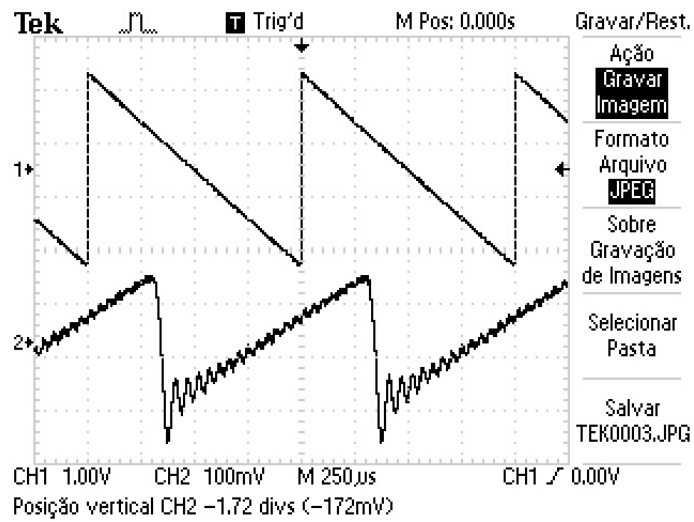

Figure 7: Oscilloscope view of the function generator sawtooth wave and analog output of the STM32F746G.
**Question 8 [ 2pt / 10 ]:** repeat again the previous experiments (questions 6 or 7) this time with a sawtooth wave that is obtained by setting the duty cycle of a triangular wave close to 0%. You should obtain a figure similar to that represented in Figure 7. Now, increase the frequency of the sawtooth wave, in steps of 1 kHz, until the STM32F746G output wave looks like a perfect sinusoid. Is